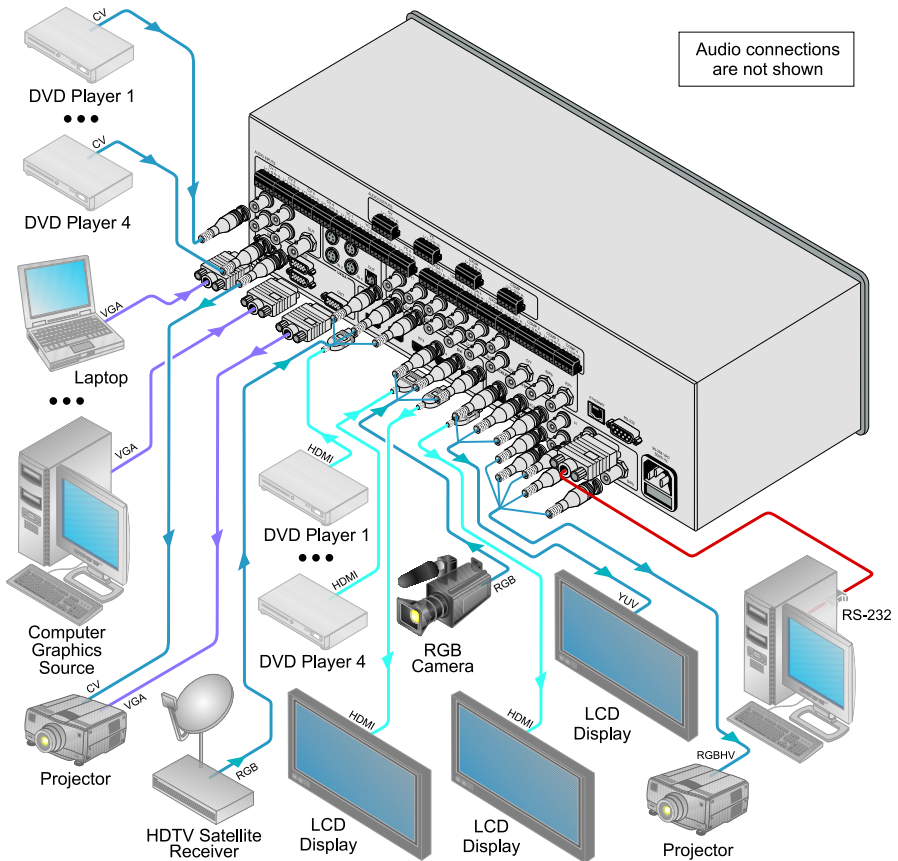

Figure 3: Connecting the VP-725XLA Presentation Switcher / Scaler
To connect the **VP-725XLA**, connect the following¹ to the rear panel, as the example in Figure 3 illustrates:
- Up to four s-Video sources to the 4-pin input connectors (not illustrated in Figure 3)
¹ Not illustrated in Figure 3